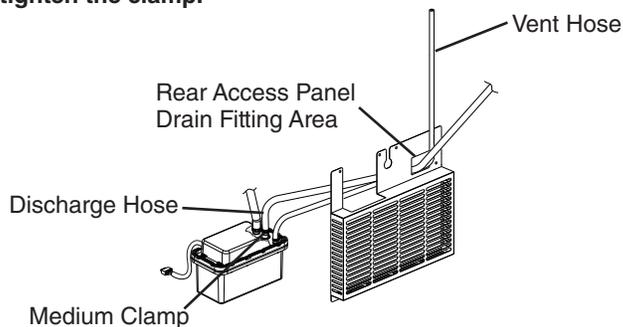

**Fig. 8**
- 10a) On non -AD/-ADDS units, route the vent hose (3/8" ID×19.5") through the drain fitting area (vent hose/discharge hose access area) in the rear access panel. See Fig. 8.